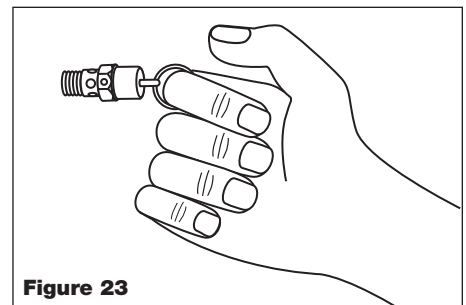

Figure 23
2. Wearing safety glasses, pull the ring on the safety valve to release pressure from compressor tank. Protect yourself from fast-moving air being released; do not allow fast-moving air to be directed toward your face (See Figure 23).